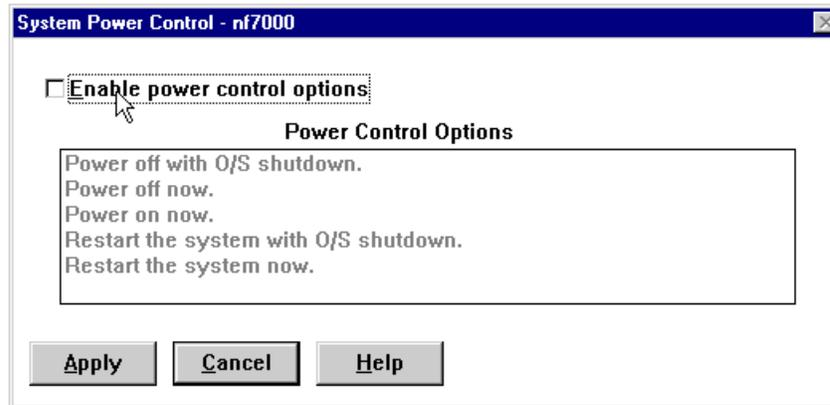

Figure 131. Service Processor System Power Control
9. Press **Cancel** and open the **System Power Control** window. Figure 131 appears.